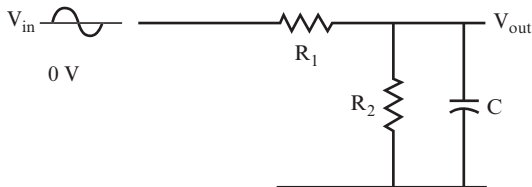

FIGURE 12.7
43. Using the circuit shown in Figure 12.7, find X_C , AC V_{out} , and DC V_{out} , if $V_{in} = 1 V_{pp}$ AC, riding on a 5-volt DC level; $f = 10 \text{ kHz}$; $R_1 = 10 \text{ k}\Omega$; $R_2 = 10 \text{ k}\Omega$; and $C = 0.2 \mu\text{F}$. _____
44. Again, using the circuit shown in Figure 12.7, find X_C , AC V_{out} , and DC V_{out} , if $V_{in} = 0.5 V_{pp}$ AC, riding on a 10-volt DC level; $f = 120 \text{ Hz}$; $R_1 = 80 \text{ ohms}$; $R_2 = 20 \text{ ohms}$; and $C = 1000 \mu\text{F}$. _____